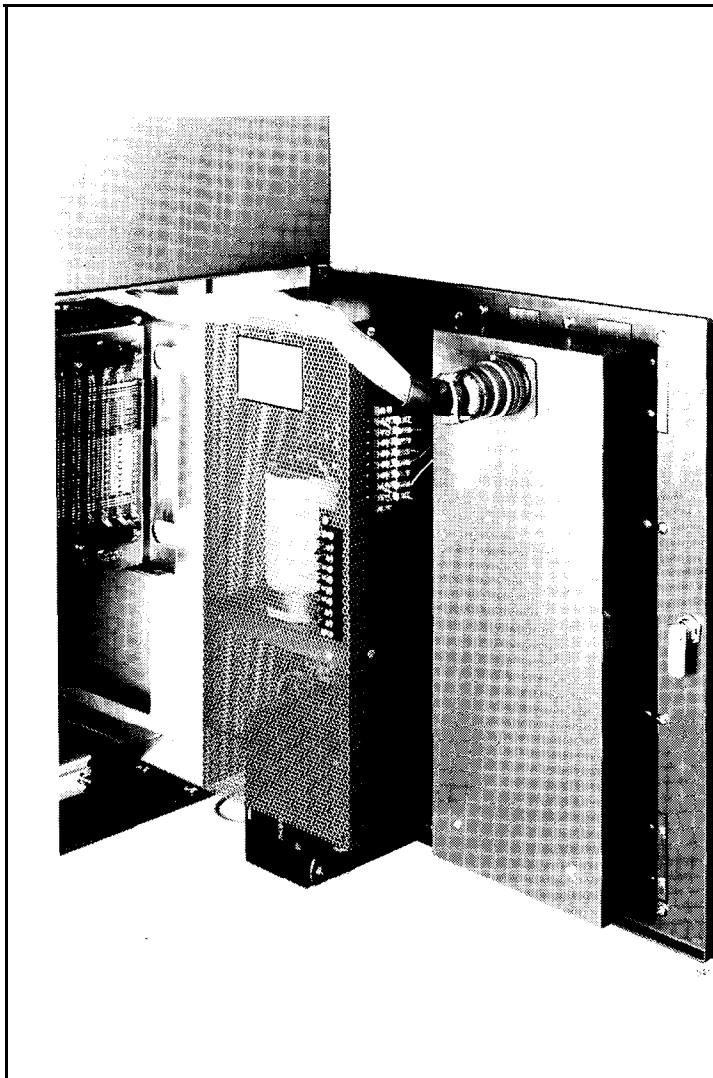

Fig. 3-6 Primary Power Supply
3.19 The system primary power supply (Fig. 3-6) mounted directly on the cabinet back panel, (total weight 70lb, 31.8kg) provides all system power from either a 115Vac, or a 230Vac, 44Hz • 64Hz commercial supply.